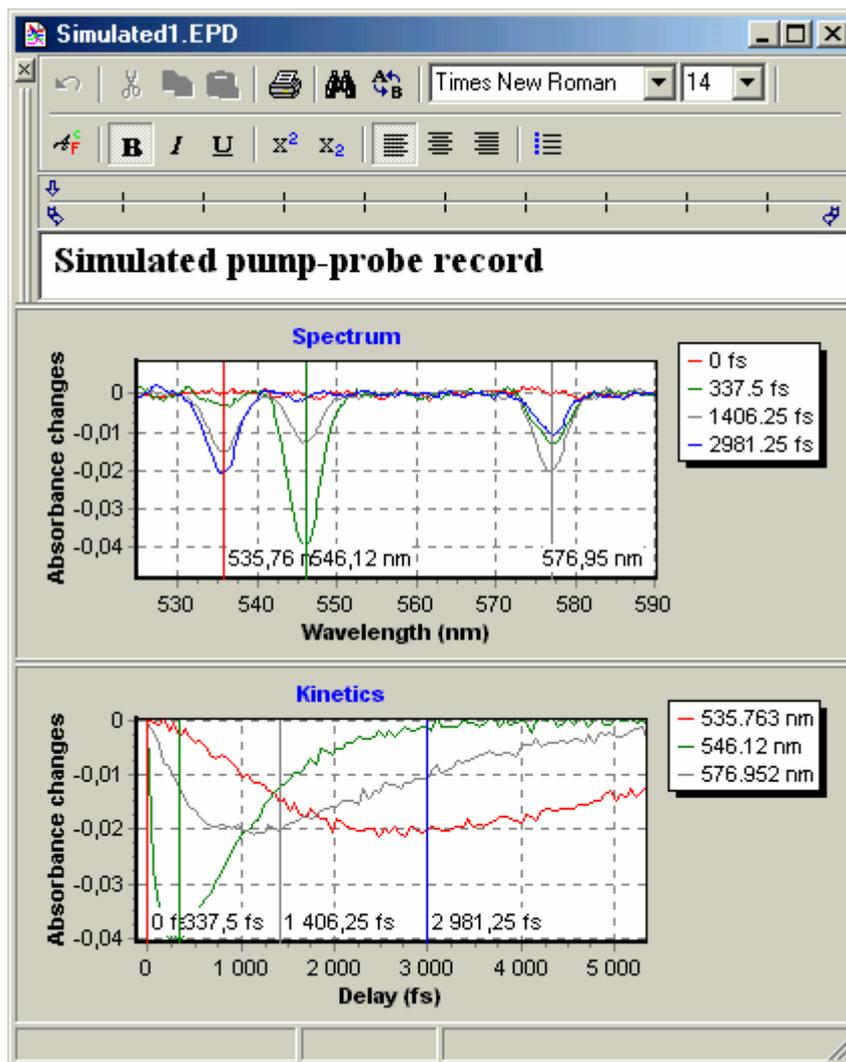

Fig. 15. File window
**ExciPro** uses windows of a special type to store results of automatic kinetics recording. These windows can be associated with the disk file thus providing the ability to save acquired data and attached information to permanent storage. These files can be reopened later for additional manipulations on saved data. The file window is shown in Fig. 15.